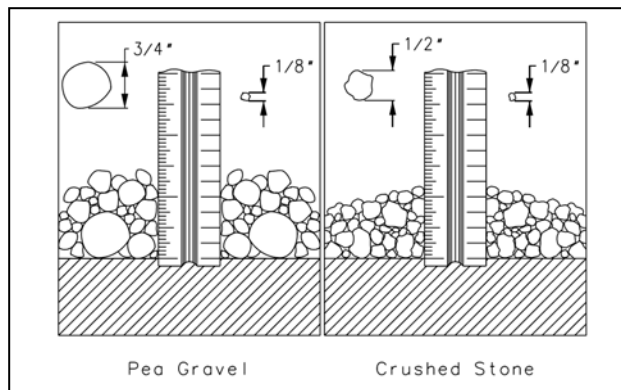

FIGURE 3-1
3.1. Xerxes wet well must be installed using either pea gravel or crushed stone as the backfill material. (See FIGURE 3-1.) For additional information, refer to the Xerxes document, Backfill Guidelines.